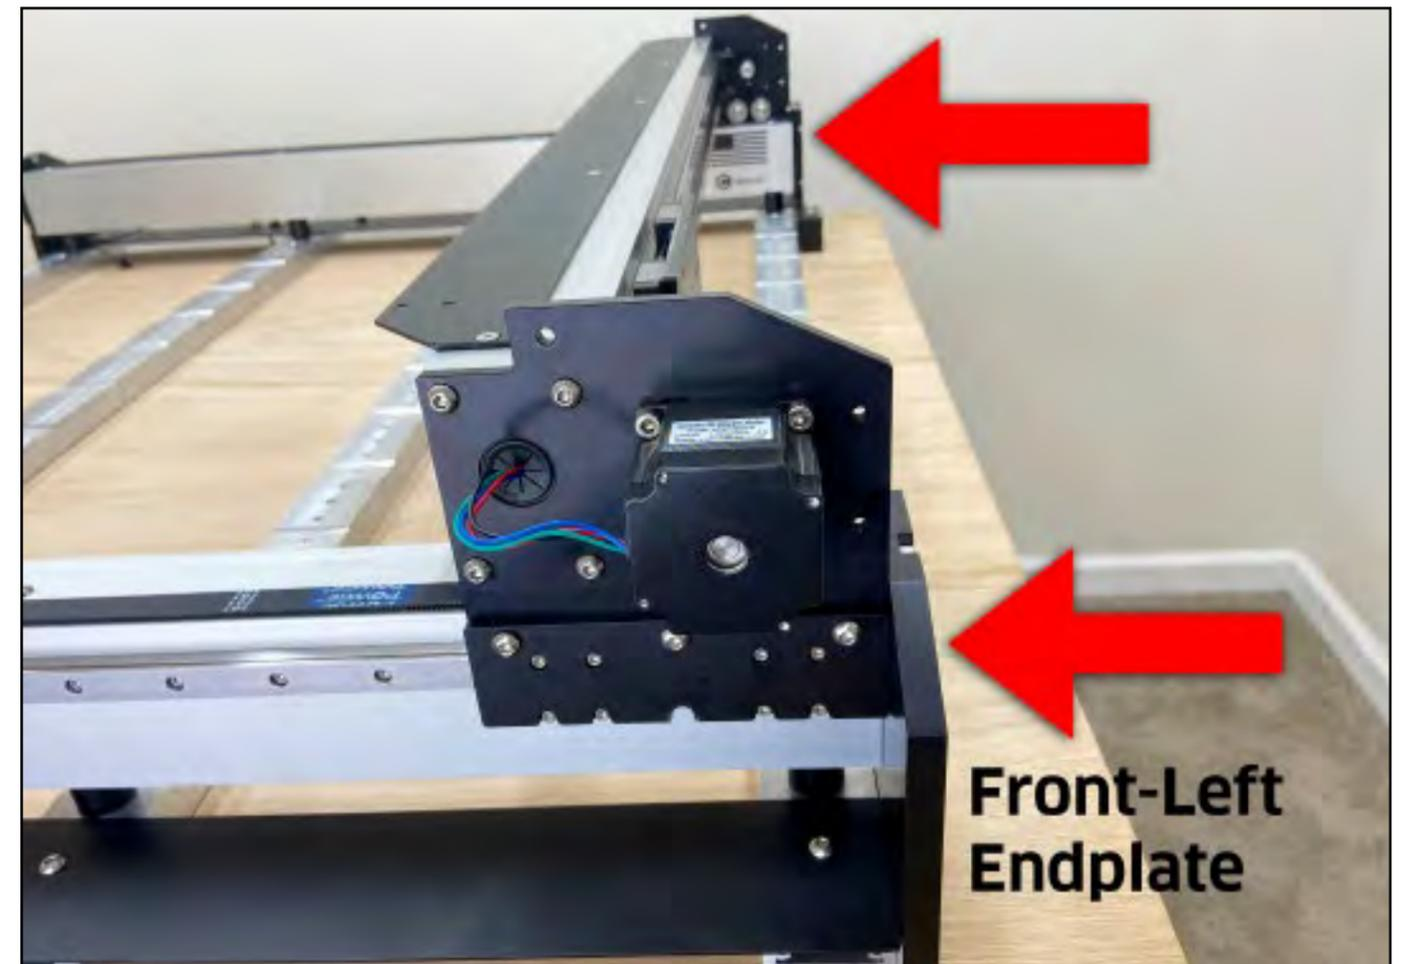

Figure 4-9
3. Adjust the squareness of the baseframe until both ends of the gantry touch the front endplates. There should be NO GAPS on either side. **See Fig. 4-9.**
6. Use a 4mm hex key to fully tighten the six (6) M6×12mm BHCS securing the gantry to the left and right Y-Axis carrier plates.
7. Use a 4mm hex key to fully tighten the eight (8) M6×6mm BHCS securing the left and right drag chain support panels to the baseframe.